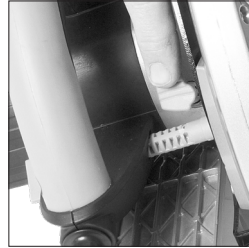

Fig. 1
- Lock the machine arbor by engaging the arbor lock. (**Fig. 1**)